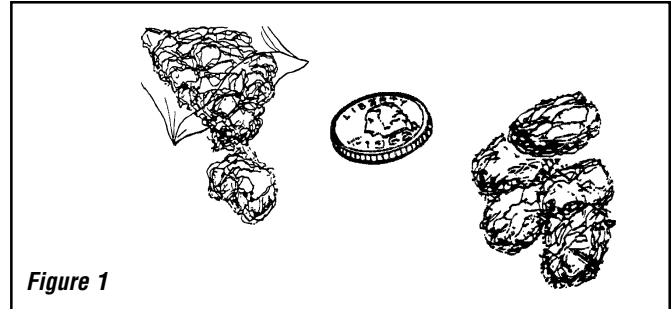
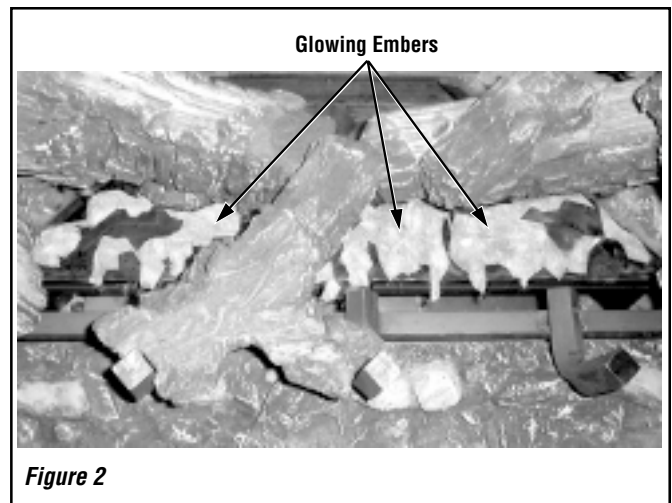

Figure 1
Figure 2
**Step 3.** Separate the Glowing Ember (Rockwool) into pieces about the size of a quarter **Figure 1**. Keep the pieces fluffed up, not matted. Distribute these pieces over the front surface of the burner, as shown in **Figure 2**. Do not use more than is necessary. When properly positioned, the Glowing Embers will cover approximately 65% of the front burner and with no appreciable gaps or openings. Ensure that the main burner ports remain uncovered by the ember material.